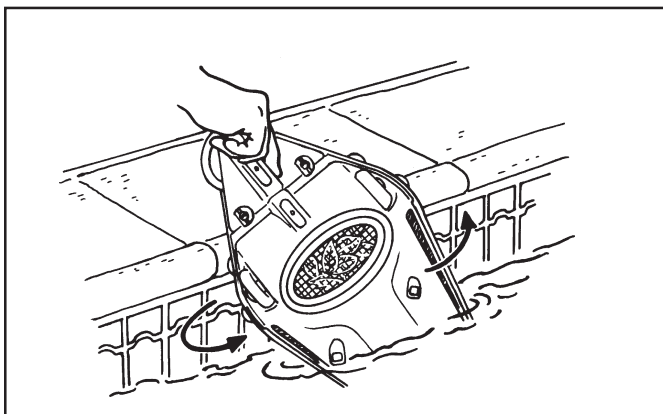

Figure 1. Remove Ray-Vac from Pool
2. Grab the cleaner by the nose wheel and lift it out of the pool (direct water coming from cleaner toward the pool. See Fig 1).